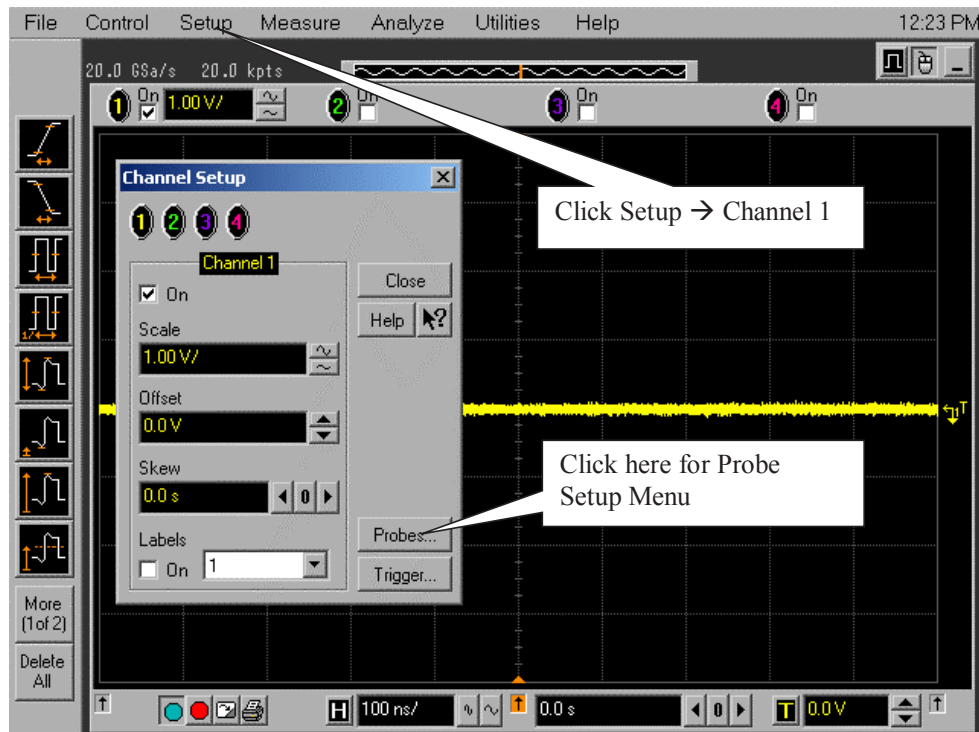

Figure 111 Channel Setup Window.
- 2 Referring to Figure 111 below, perform the following steps:
- 16 Click the Close button on the Channel Setup window (Figure 111 on page 378) to close this window.